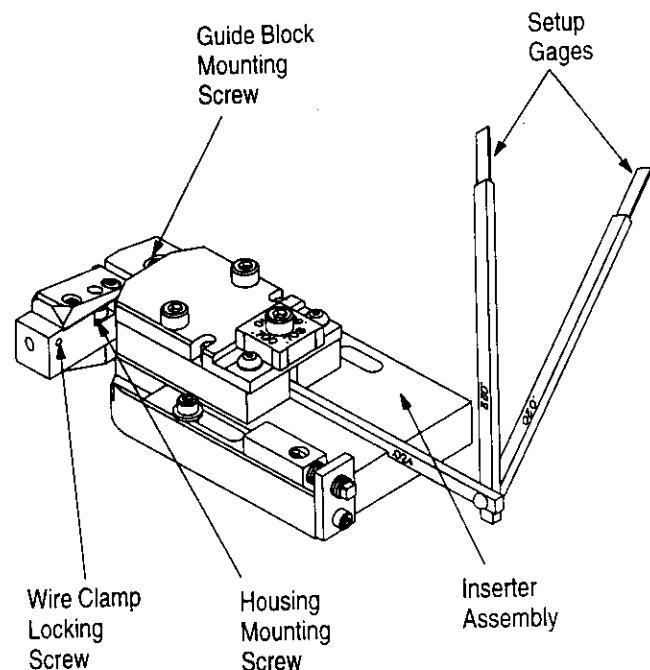

Figure 7
5. Locate the setup gage that is the same size as, or that is one size larger than, the measured wire. Insert the setup gage into the inserter assembly until the gage bottoms against the guide block. Refer to Figure 7.
D. Wire Clamp Force (Figure 7)